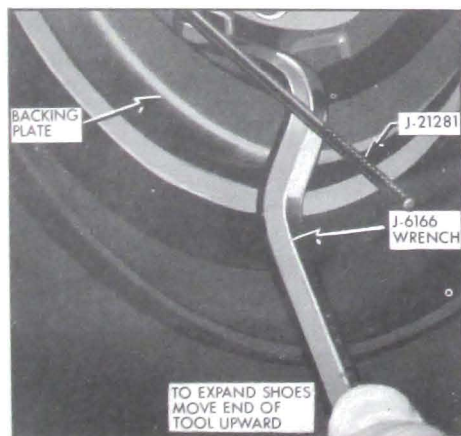

Figure 9-10—Adjusting Right Front Brake Shoes
1. Remove adjusting hole cover from brake backing plate. Install J-21231 through adjusting hole to move actuator off adjusting screw. Use J-6166 to turn brake adjusting screw; expand brake shoes at each wheel until the wheel can just be turned by hand. See Figure 9-10. The drag should be equal at all wheels.
4. Place brake shoes on backing plate, at the same time engaging shoes with wheel cylinder links. The primary shoe (short lining) goes forward. On rear brakes, connect cable to parking brake lever and install strut and spring between lever and primary shoe as shown in Figure 9-10.
5. Install actuator, actuator return spring and actuating link as shown in Figure 9-10.
9. Install J-21231 through adjusting hole to move actuator off adjusting screw. See Figure 9-10.